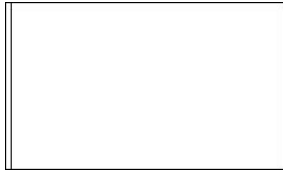

FIGURE 4.4 : The first line is offset.
5. Click in a blank area inside the rectangle. The first line is offset 6" to the inside (see Figure 4.4). The Offset command is still running, and the `Select object to offset:` prompt is still in effect.